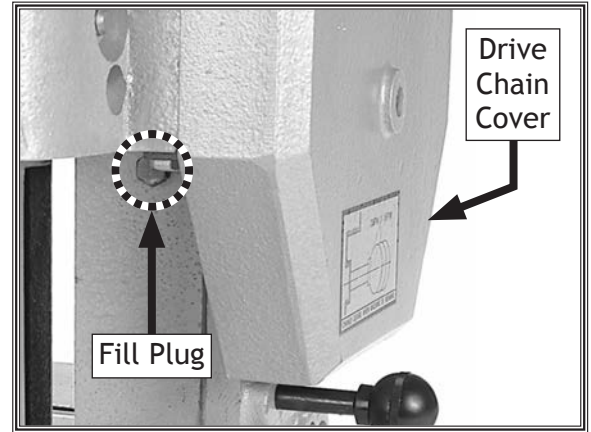

Figure 15. Location of gearbox fill plug.
Note: For easier access to the fill plug, remove the drive chain cover (see **Figure 15**).
1. Remove gearbox fill plug (see **Figure 15**).